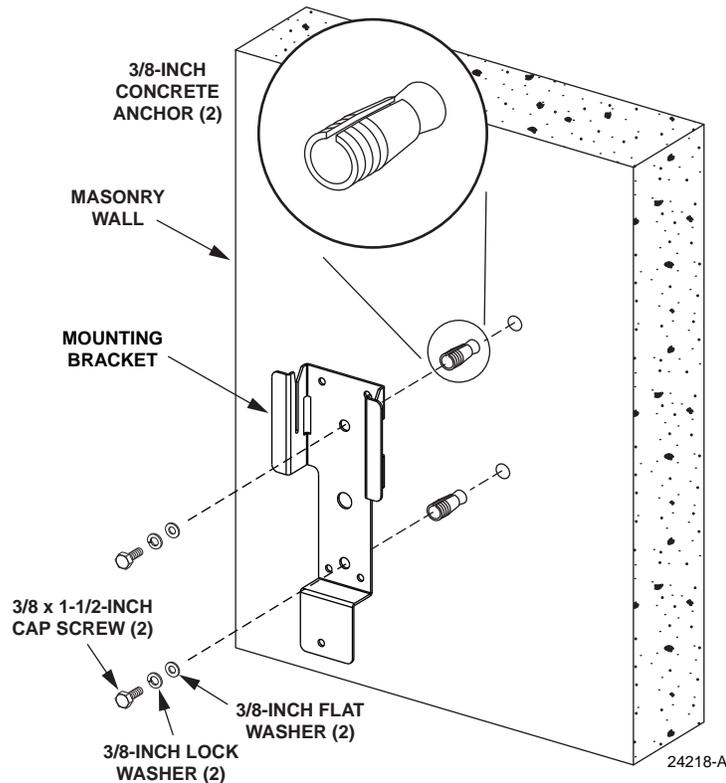

Figure 12. Installing Mounting Bracket on a Masonry Wall
- 3/8-inch concrete anchor (2)
- 3/8-inch x 1-1/2 inch hex head capscrew (2)
- 3/8-inch flat washer (2)
- 3/8-inch lock washer (2)
2. Using the mounting bracket as a guide, mark the location of the bracket mounting holes on the masonry wall as shown in Figure 12.